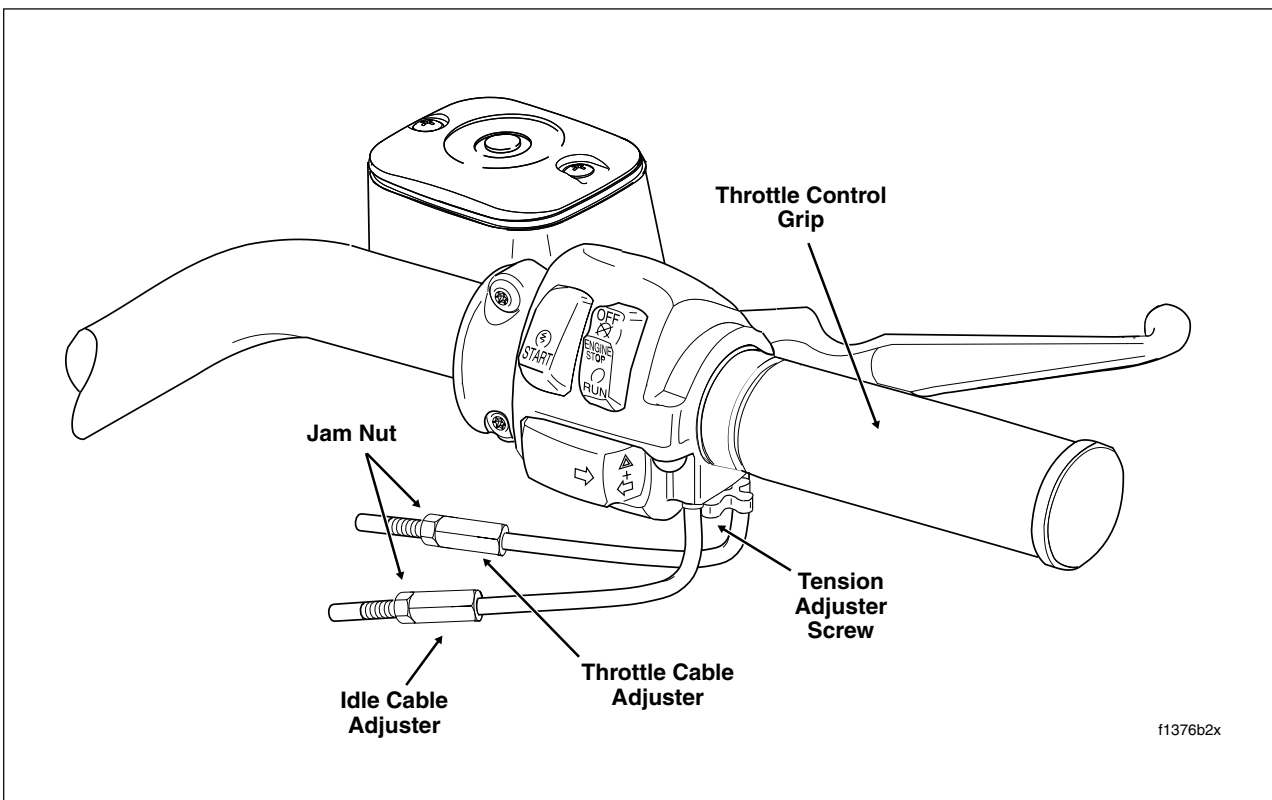

Figure 2-106. Throttle Cable Assembly - Throttle Side (FLHR)
1. Slide rubber boot off throttle cable adjuster. See Figure 2-106. Holding cable adjuster with a 3/8 inch wrench, loosen jam nut turning in a clockwise direction. Back jam nut away from cable adjuster until it stops. Turn adjuster clockwise until it contacts jam nut. Repeat procedure on idle cable adjuster.